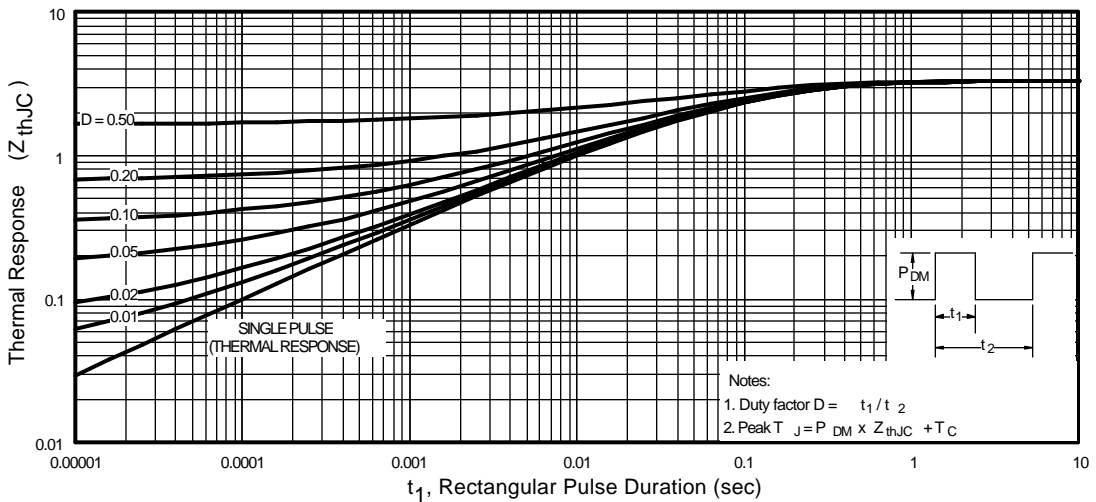

Fig 11. Maximum Effective Transient Thermal Impedance, Junction-to-Case
- ① Repetitive rating; pulse width limited by max. junction temperature. (See fig. 11)
- ② $V_{DD} = 15V$, starting $T_J = 25^\circ\text{C}$, $L = 470\mu\text{H}$